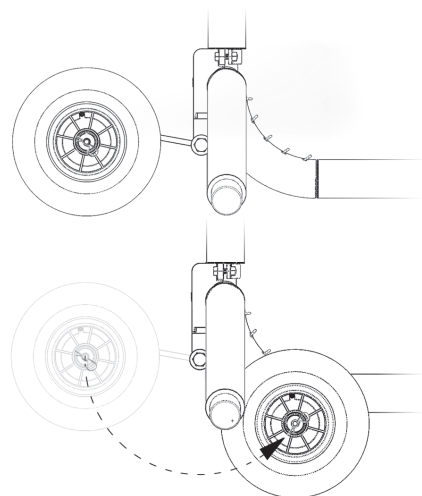

Figure 3.
4. Engage/Disengage transport wheel kit (figure 3.)